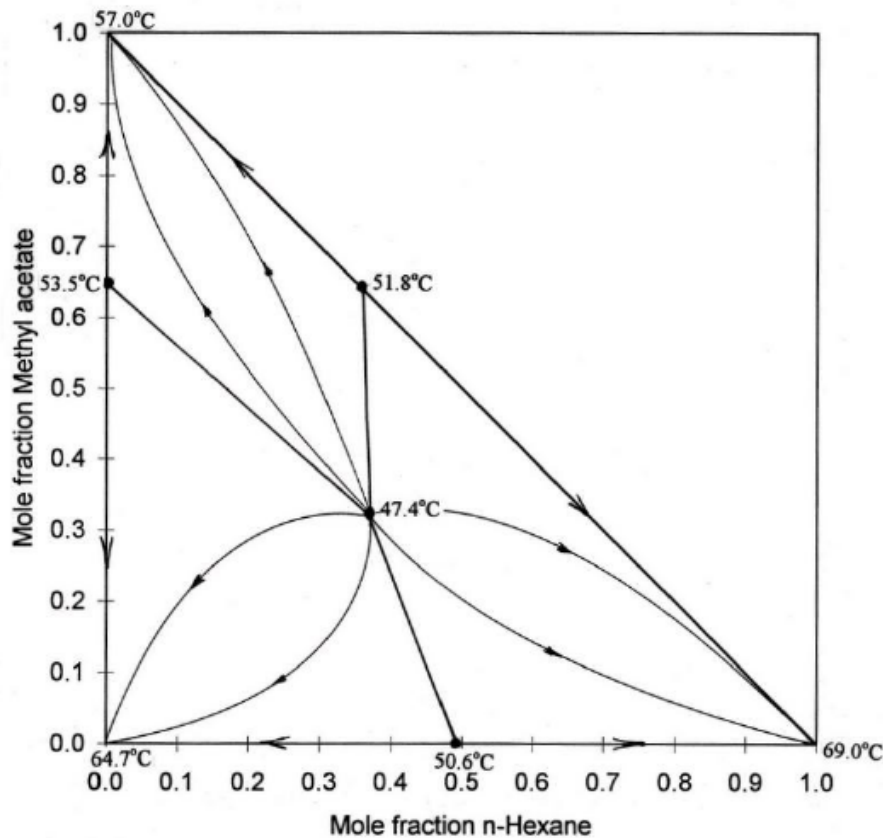

Figure Q.2.[a]. Computed residue curve map from van Dongen and Doherty, IEC Fundamental Vol. 24, 454 (1985)
- [b] JK is interested to magnetophoretically harvest *Chlorella sp.* (single-celled alga with spherical shape and having diameter around 5 μm) from its culture medium as shown in the Figure Q.2.[b]. (viscosity, $\mu \sim 8.94 \times 10^{-4} \text{Pa} \cdot \text{s}$). If the magnetophoretic force experienced by a single magnetite nanoparticle can be best described by $F_{mag} = 6 \times 10^6 V_p$, (where V_p is the volume of the magnetic nanoparticle employed)